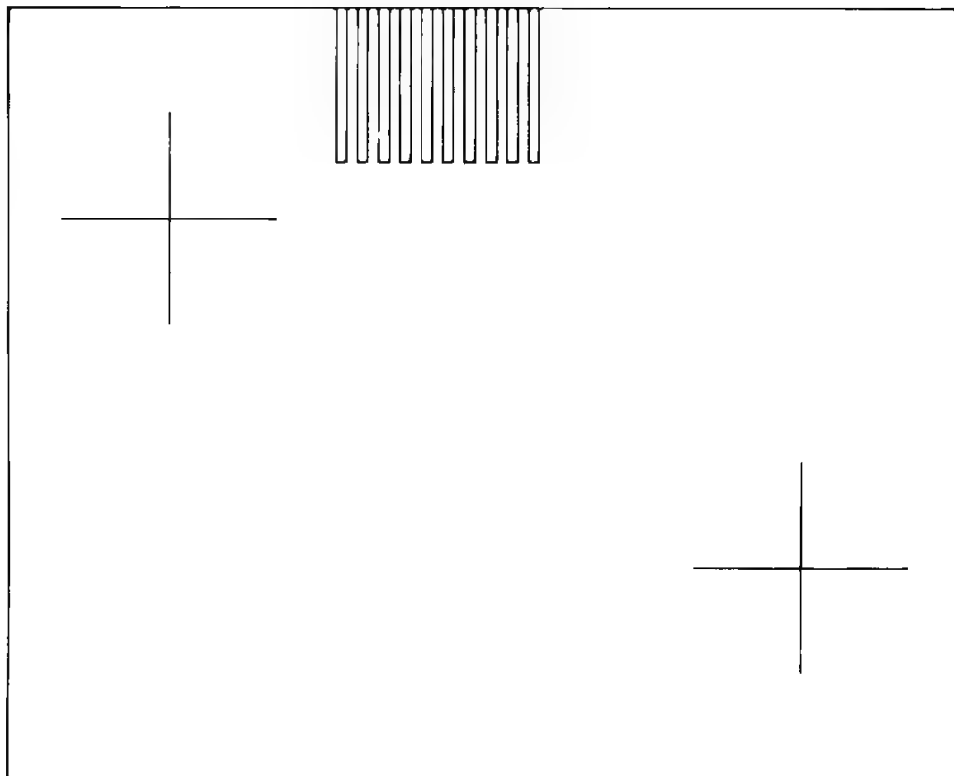

FIGURE 10-3. TRACKING TEST
2. At the TRACKING TEST menu, press the **ENTER** key to start the test. The test draws a border (Figure 10-3); over-plots the four corners of the border; draws a cross in the lower right area of the chart; draws a cross in the upper left area of the chart; draws a series of down vectors one-fifth the length of the chart in the X direction and 0.1 inch (2.54 mm) in width in the Y direction; and then over-plots the two crosses in the lower right and upper left areas of the chart.